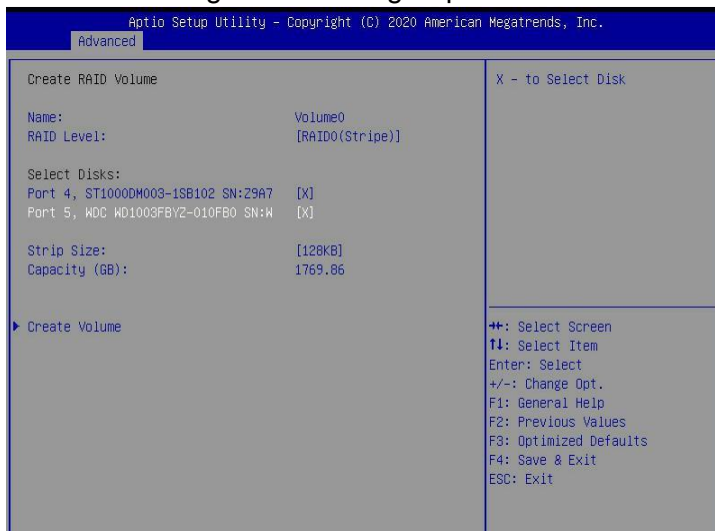

Figure 6-7
b) Select Disks: Press the space bar to select the disks that need to participate in the RAID group. Figure 6-7
✧ Figure 6-7 Selecting the disks of group RAID